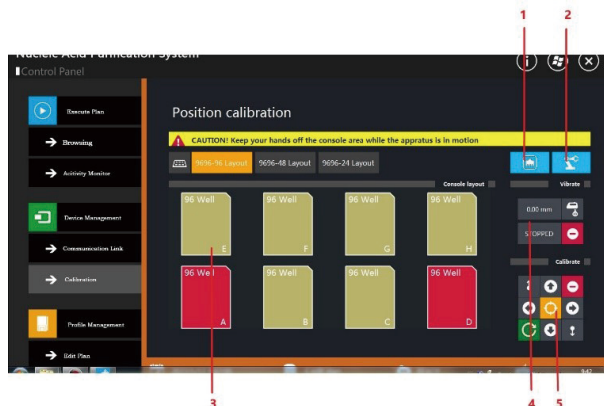

Figure 16: Calibration of Moving Parts/User Interface Commissioning
After clicking the "Calibration Test" menu item in the left function menu area of the main interface, the central operation interface area of the main interface presents the user with the running part position calibration interface, as shown in Figure 16.
- ① in Figure 16 represents the "Replace Magnetic Rod" command button, through which users can install/replace magnetic rod attachments of different specifications for the instrument.
- ② in Figure 16 represents the command button of "Safely Releasing the Tip Comb". The function of this command button is to control the manipulator to safely release the tip comb to the plate position specified by the user, so as to reduce the risk of pollution caused by the user taking the tip comb directly by hand.
- ③ in Figure 16 represents the interactive area of "Plate Layout", where the system displays the plate position layout of the work table of the experimental cabin in a visual way, and each plate position can interact with the user by clicking. The plate layout will be displayed only after the initialization of the instrument motion mechanism.
- ④ in Figure 16 represents the vibration and mixing test area, through which users can test the influence of different amplitudes and vibration frequencies on samples.
- ⑤ in Figure 16 represents the position calibration control area. The 9 calibration control buttons in this area are used in conjunction with the plate layout interaction area shown in ③ to facilitate the user to realize the position positioning and calibration of moving parts at each plate position of the work table. Table 12 shows the functions of the 9 calibration control buttons.